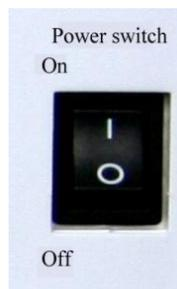

Fig. 2.2 Power Switch on Rear Panel of Series 3986
**Step 2.** Turn on the power switch of the rear panel, as shown in Fig. 2.2, and check if the standby indicator above the power switch of front panel lights up in yellow;